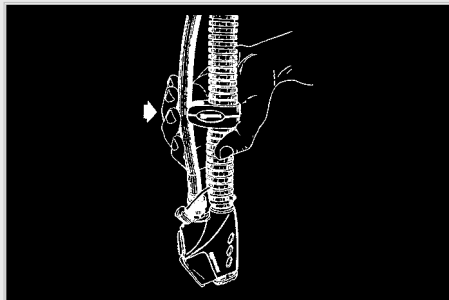

FIG. 2
- Fasten the hose to the corrugated hose using the quick-connect LP-hose retainer (Fig. 2).